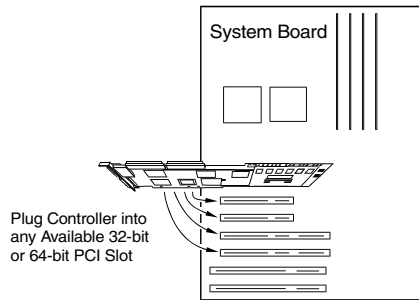

Figure 2-2. Plugging the eXtremeRAID 2000 into a PCI Slot
5. Plug the controller firmly into an available 32-bit or 64-bit PCI slot so that the controller's external connectors can be accessed through the access port. Use the retaining screw to secure the controller by its mounting bracket (Figure 2-2).